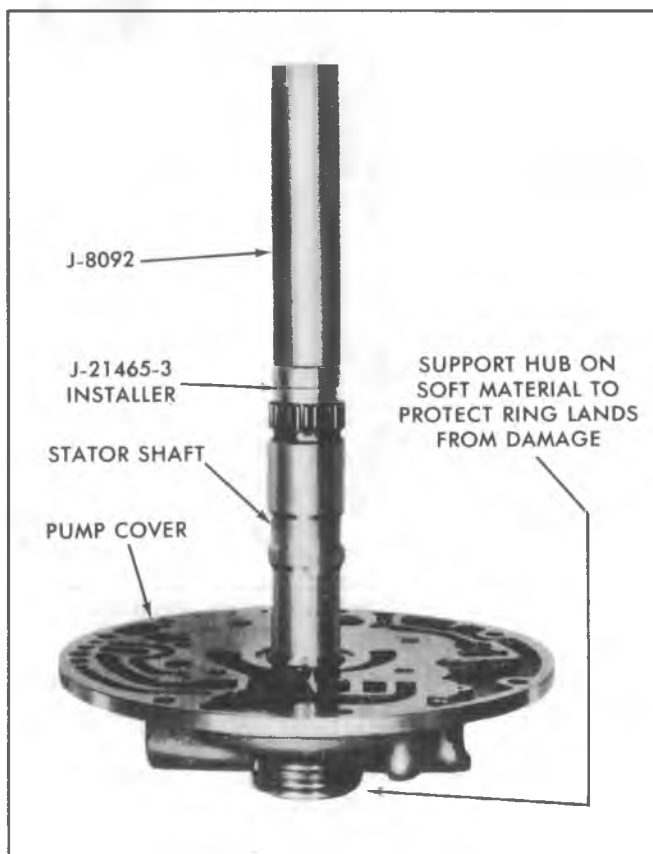

Figure 400-132 Installing Stator Shaft Front Bushing
2. Clean all shavings from stator shaft. Assemble installer J-21465-3 to Drive Handle J-8092. Locate new bushing on shoulder of installer and drive bushing squarely into bore with a lead or brass hammer, as shown in, **Figure 400-132**. Remove tool and inspect bushing.